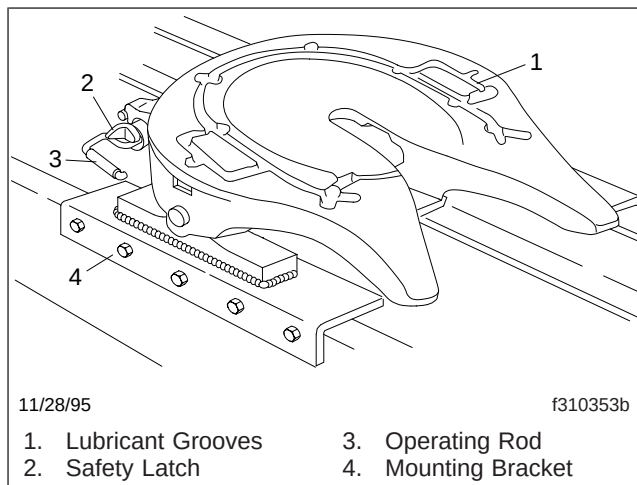
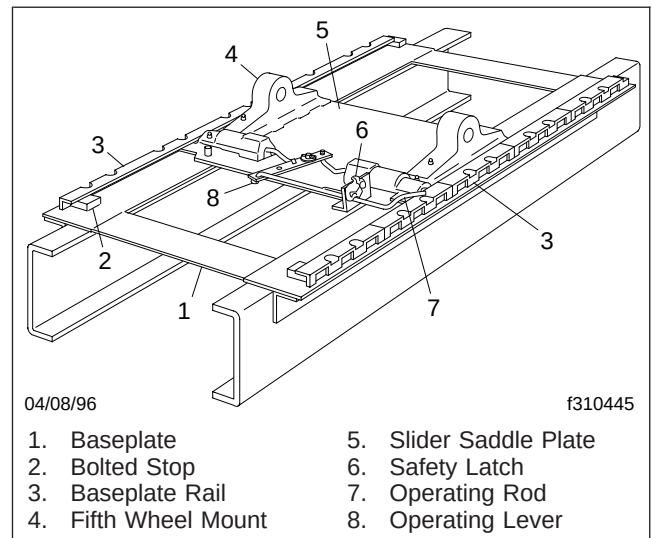

Fig. 10.8, Simplex Stationary Fifth Wheel
Fig. 10.9, Taperloc Slide, Manually Operated Release
The ASF Simplex series fifth wheels are used for pulling trailers having the standard 2-inch (51-mm) diameter kingpin. When installed as a stationary fifth wheel (**Fig. 10.8**), they are bracket-mounted to the tractor frame in a position that best distributes the trailer load over the tractor axles. When used as a sliding fifth wheel (**Fig. 10.9**), they are mounted on the Taperloc® sliding mount (air-operated or manual release).
The manually operated slide contains an operating rod (**Fig. 10.9**) that unlocks both sides of the plate at the same time.
- 3.2 For manually operated models, raise the safety latch and pull the slide operating rod (Fig. 10.9) outward until the shoulder is outside of the operating rod support, then lower the operating rod as far as it will go.